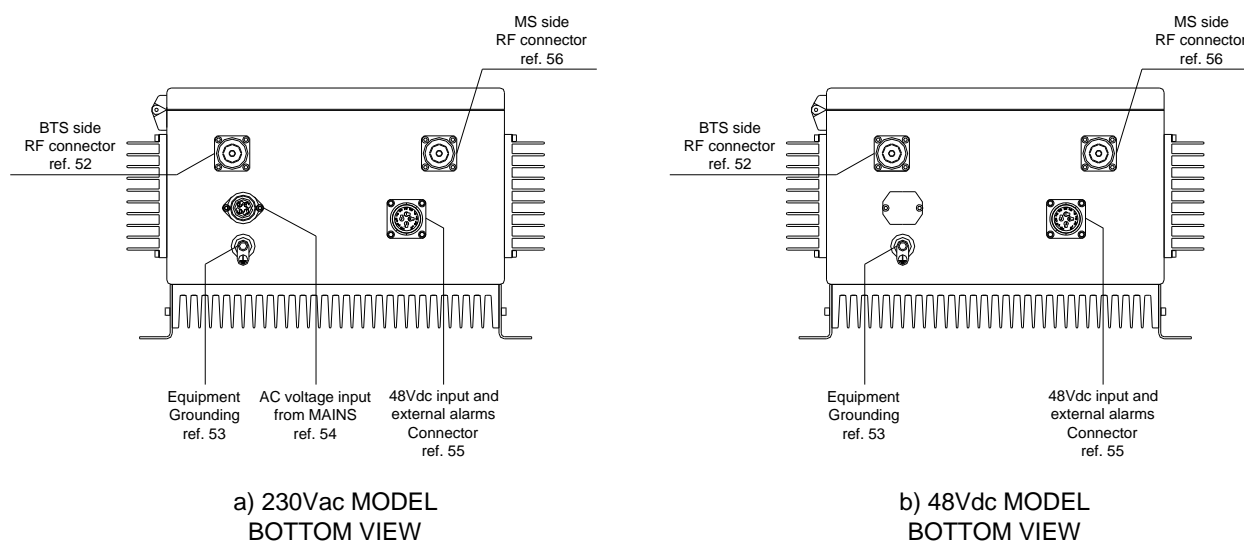

FIGURE 3 – EXTERNAL CONNECTORS
- Before carrying out any other electrical connection connect the rack to the station ground, using the ground bolt on the bottom of the repeater (ref. 53, FIGURE 3).
- Connect the 15-pole (f) connector on the bottom of the repeater (**ref. 55**, FIGURE 3) to the 48Vdc/Alarm cable (supplied with the equipment).
- Connect the 230Vac power cable to the connector located on the bottom of the repeater (**ref. 54, FIGURE 3**). The connector pin assignments is detailed in Table 2.
- Also connect the 48Vdc power and alarms cable, provided standard, to the 15-pin connector located on the bottom of the equipment (**ref. 55, FIGURE 3**).